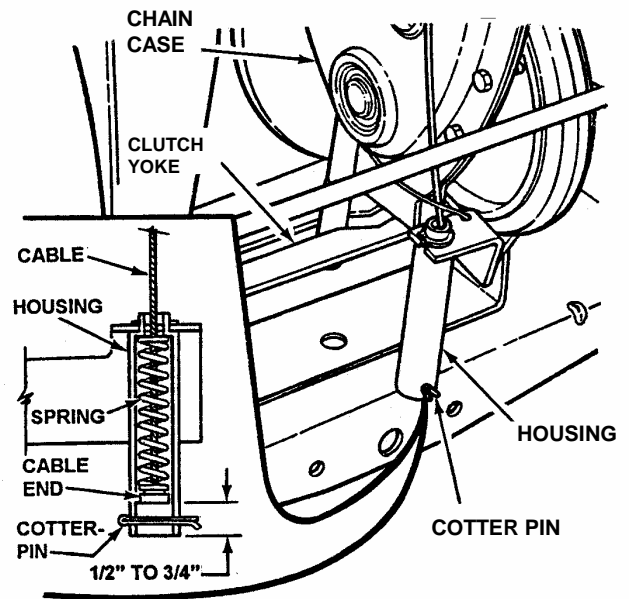

FIGURE 4.7
5. Measure the distance between end of clutch/brake cable and bottom of housing. Measurement should be no less than 1/2" and no greater than 3/4". See inset of Figure 4.7.
7. Adjust cable up or down using the jam-nuts to obtain a distance of 1/2" to 3/4" between end of clutch/brake cable (adjustment shown in inset of Figure 4.7) and bottom of housing. See Figure 4.7.